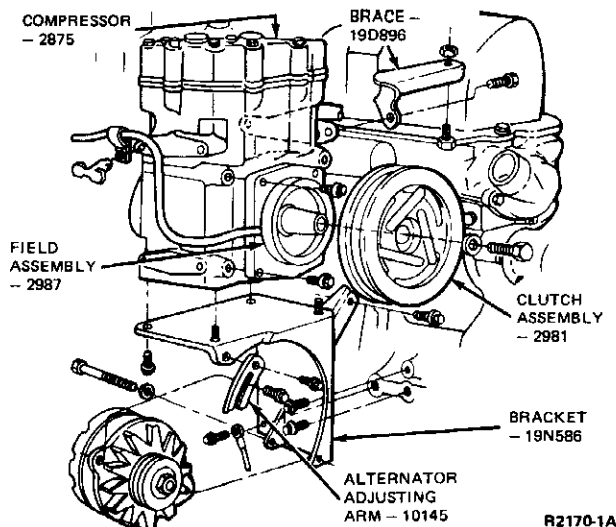

FIG. 19 A/C Compressor Installation—3.3L (200 CID) Engine
2. If the belt tension is not within specification, loosen the alternator mounting bolt to a snug position and loosen the alternator adjusting arm bolt (Fig. 19).